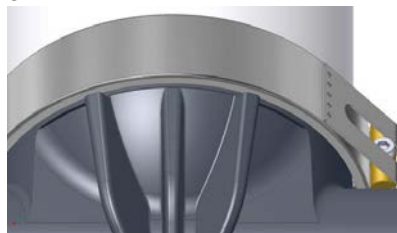

Figure 10-9: Raised ribs
4. Once the pipe couplings have been properly aligned, tighten the screws to a sufficient degree to ensure that they cannot slip over the raised ribs of the feed/drain headers (see Figure 10-9).